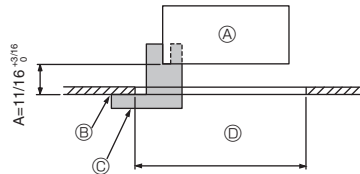
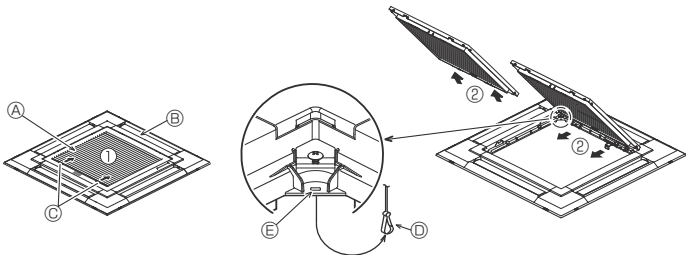
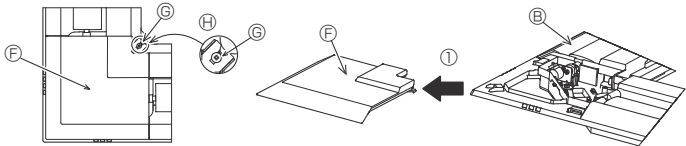

Fig. 9-2
Fig. 9-3
Fig. 9-4
①	Grille	1	950 × 950 (mm), 37-3/8 × 37-3/8 (inch)
②	Installation gauge	1	(Divided into 4 parts)
③	Screw (4 × 16)	1	For PLA-A-EA*
④	i-see Sensor corner panel	1	For PLA-A-EA*
9.2. Preparing to attach the grille (Fig. 9-2)
- With the gauge ② supplied with this kit, adjust and check the positioning of the main unit relative to the ceiling surface. If the main unit is not properly positioned relative to the ceiling surface, it may allow air leaks or cause condensation to collect.
- C Installation gauge ② (inserted into the main unit)
9.2.1. Removing the intake grille (Fig. 9-3)
- Slide the levers in the direction indicated by the arrows ① to open the intake grille.
- With the intake grille in the "open" position, remove the hinge of the intake grille from the grille as indicated by the arrows ②.
9.2.2. Removing the corner panel (Fig. 9-4)
- Loose the 4 screws on the corner. Slide the corner panel in the direction of the arrow ① in the figure and remove the corner panel.
- [Fig. 9-3] [Fig. 9-4]
- B Grille ①